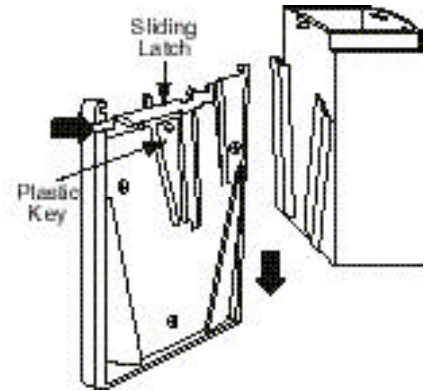

Figure 3
1. Break off the plastic key from the wall bracket (see figure 3). Using this key, push the concealed sliding latch located in the small slot at the upper left side of the wall bracket. The lid will automatically pop forward.